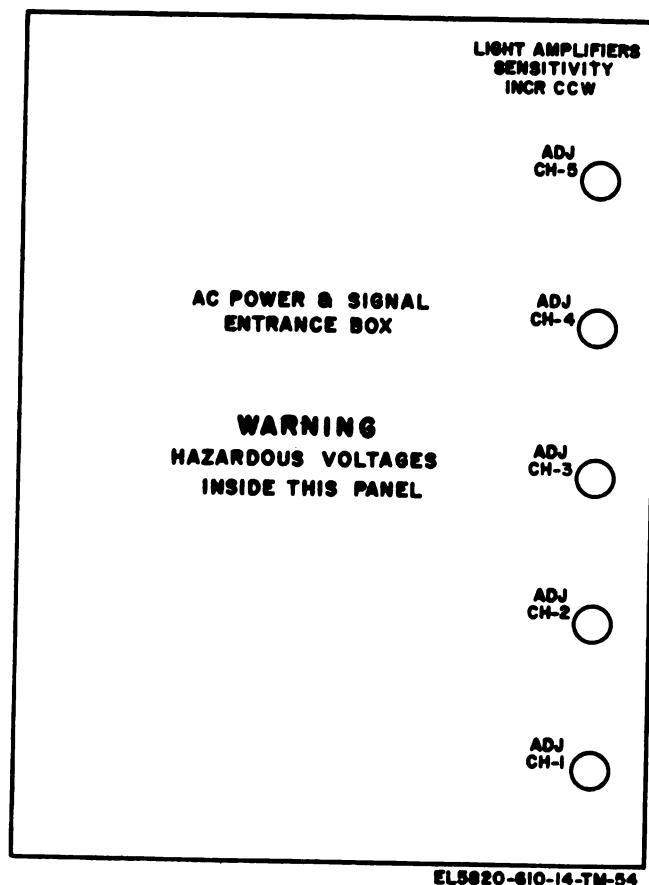

Figure 3-9. Ac power and signal entrance box controls.
b. *Light Amplifiers* (fig. 3-9).